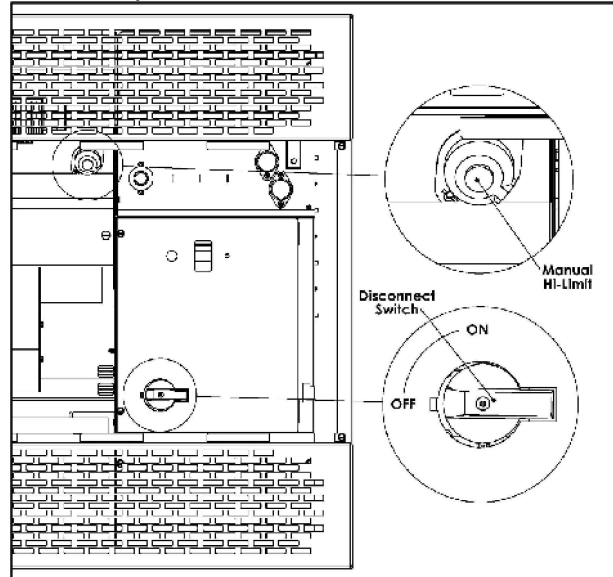

Figure 5
- c. Press the limit firmly until you hear a click (see Figure. 5).
Disconnect Switch – If installed, the disconnect can be used to power off the rest of the heater without cutting power at the main service panel. It is located under the front panel in the controls section of the heater (see Figure. 5).
Note: The "OFF" and "ON" markings shown in Figure. 5 are for reference only. The markings are not present on the panel.